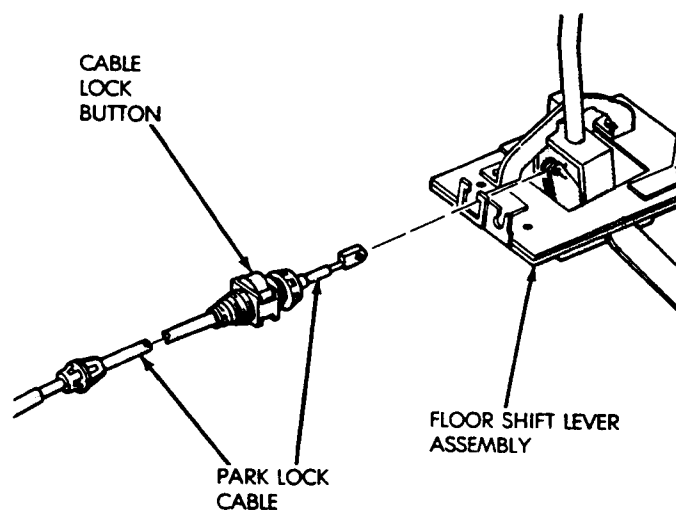

Fig. 48 Park Lock Cable
(1) Shift transmission into Park.
(2) Turn ignition switch to Lock position.
(3) Remove shift lever bezel and console screws. Raise bezel and console for access to cable.
(4) Pull cable lock button up to release cable (Fig. 48).
(5) Pull cable forward. Then release cable and press cable lock button down until it snaps in place.
(6) Check adjustment as follows: